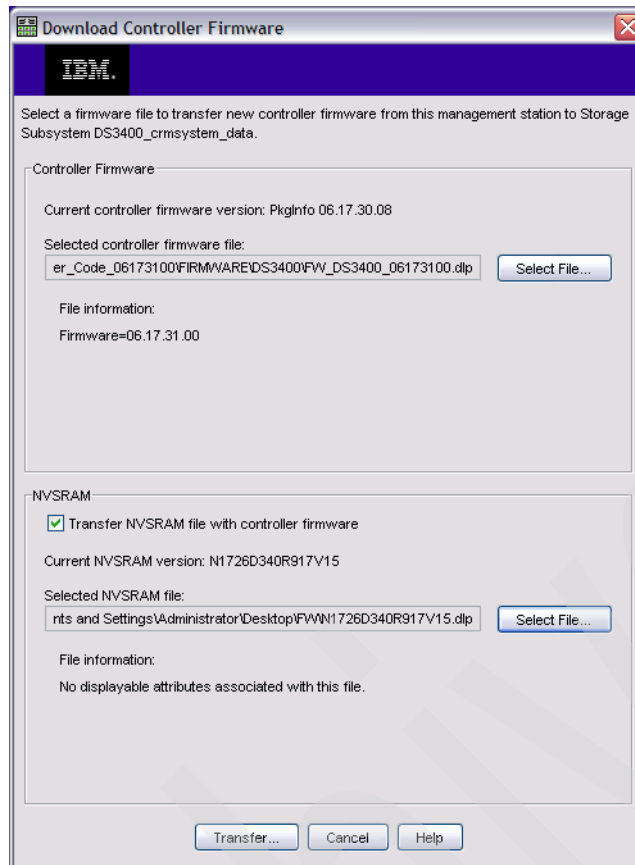

Figure 14-19 Download Controller Firmware - With NVSRAM firmware
4. To update the NVSRAM in the same step, select the **Transfer NVSRAM file with controller firmware** check box and browse to the NVSRAM file (Figure 14-19 on page 315).